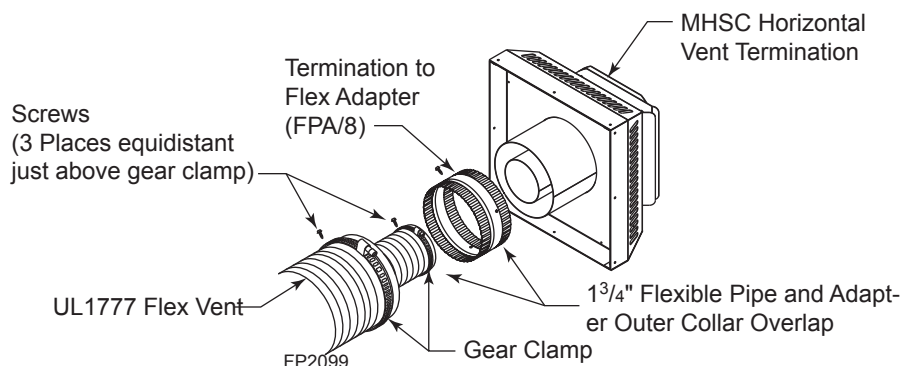

Figure 38 - Typical Horizontal Flex Vent Installation
1. Connect the 4" flexible vent to the horizontal termination. *Figure 38*
3. Connect the 7" flexible vent to the termination adapter ring. *Figure 38*
4. Review *Figure 38* for proper overlap and clamp placement.
6. Use only listed approved terminations and accessories, installed per the termination instructions and *Figure 38*.